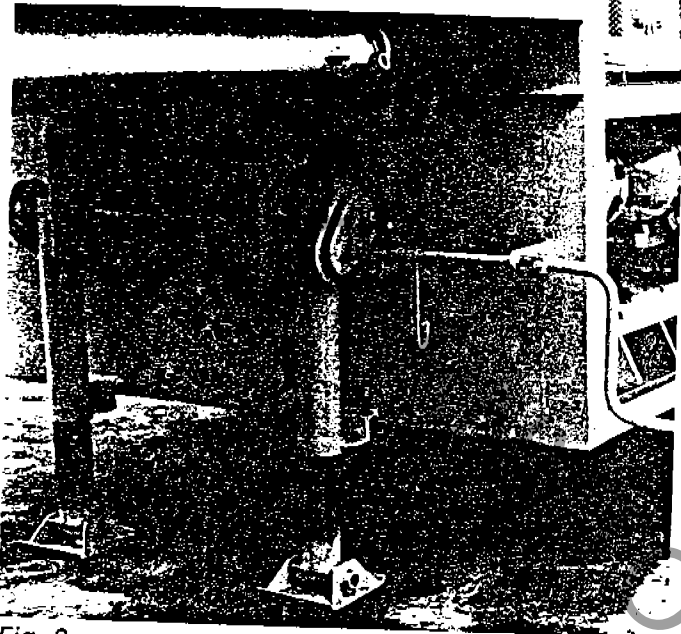

Fig. 3
- a. Crank front landing gears down (Fig. 3)